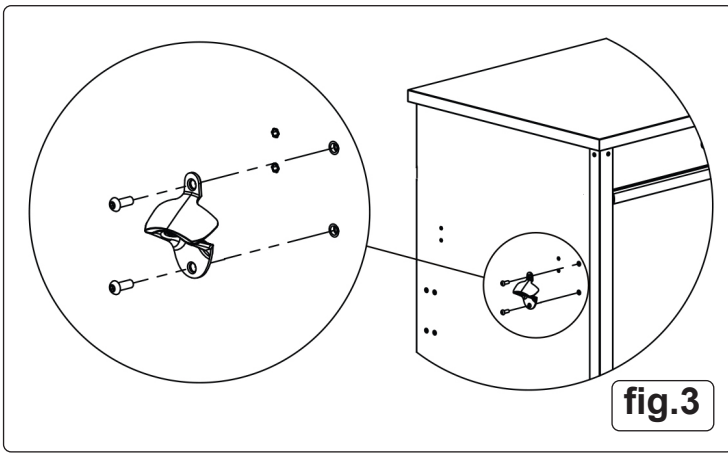

fig.3
- 3.4. Fit bottle opener to the left hand (handle) end of the cabinet using two M6 x 16 mm bolts (fig.3).